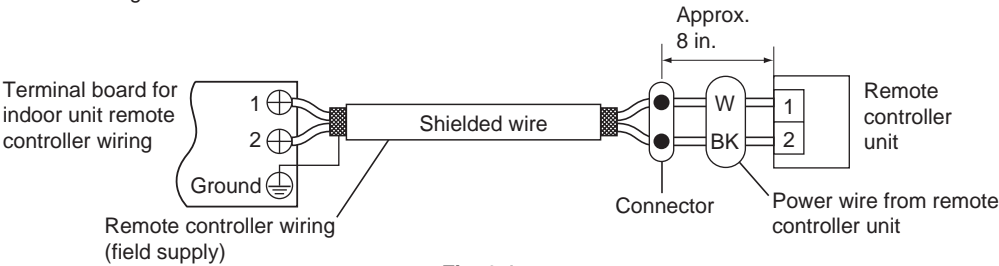

Fig. 2-1
- Use shielded wires for remote control wiring and ground the shield on indoor unit sides. (Fig. 2-1)